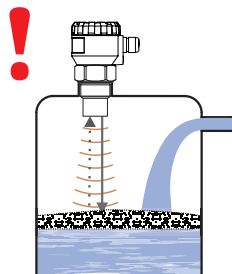

Fig. 9: Foam on the surface
- During filling, mixing and other processes, **foam** can arise on the surface level of the measured liquid. The foam absorbs the ultrasonic signal which may cause malfunction of the level meter (Fig. 9). For such cases, it is necessary to set up "SENSITIVITY" mode to "high" or to contact the manufacturer. In case of a thin layer of foam, it is also recommended to use the directional horn for improving receipt of the echo.